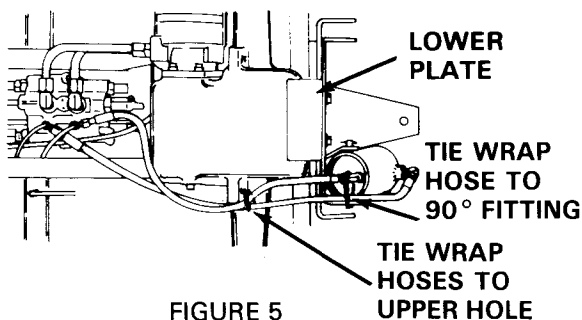

FIGURE 5
- c. Position the lower plate so it extends under the transaxle casting as shown in Figure 5. Use the new 1-1/4 inch long bolts provided to secure the hitch and lower plate together.